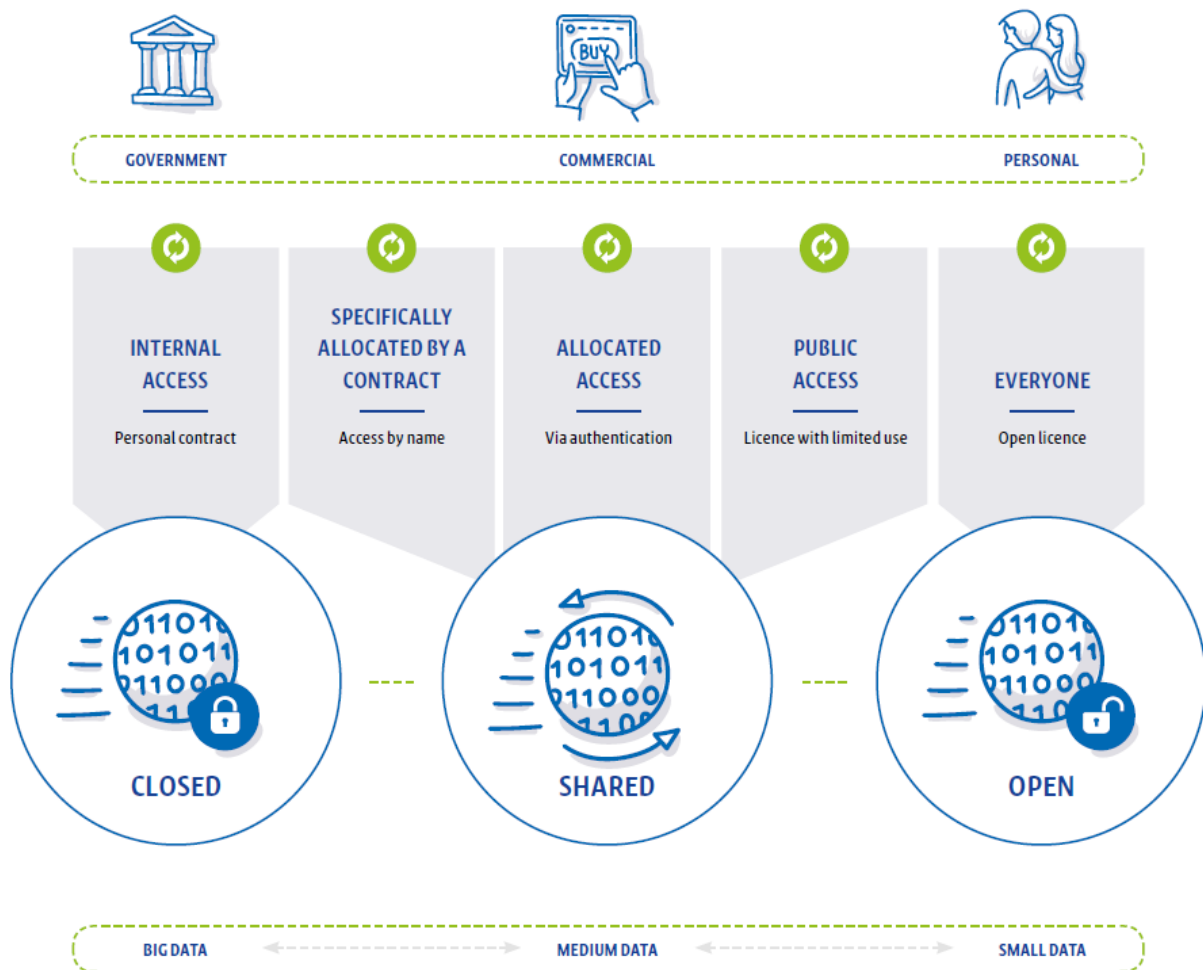

Figure 3: Different business models for data, Source: Agoria White Paper Data (2018)
19. Can you suggest measurable values / KPIs for the different business models (Closed, Shared and Open from Figure 3)? (Open Question)